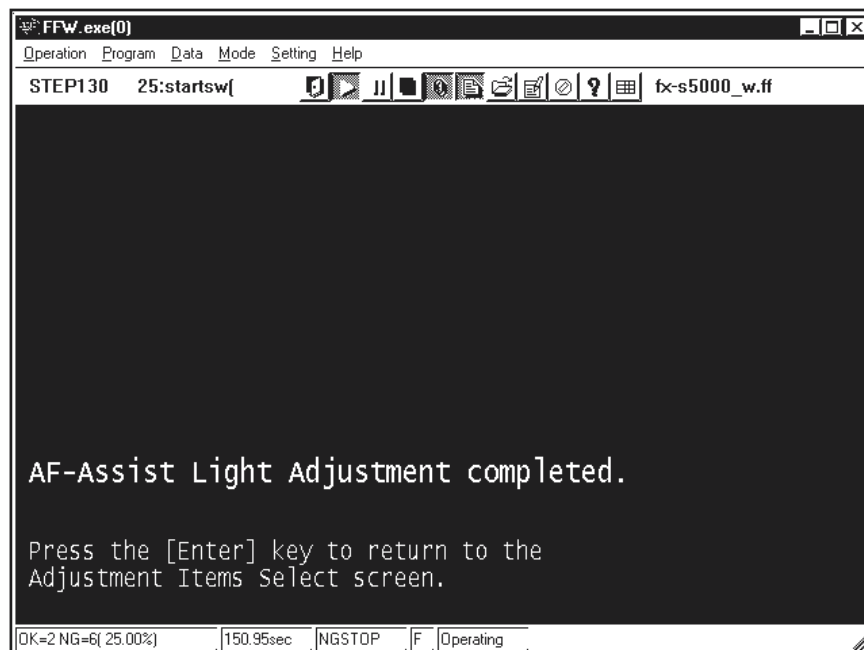

Fig.9
---> The [AF-Assist light adjustment complete Screen (Fig.9)] appears.
Press the Enter key while in the [AF-Assist light adjustment Complete Screen (Fig.9)].